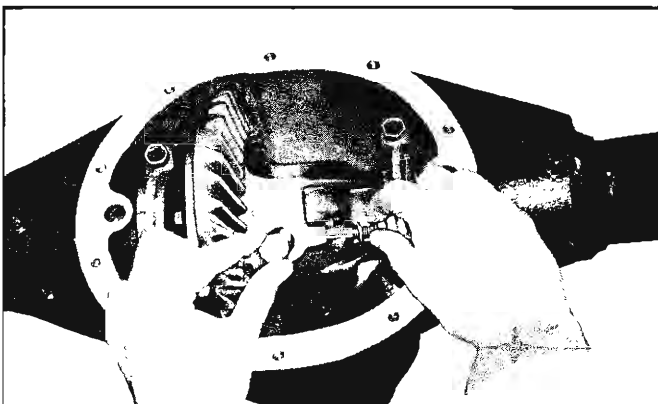

Fig. 40—Differential Pinion Shaft Removal
- Remove the differential pinion shaft lock screw and the differential pinion shaft (fig. 40).